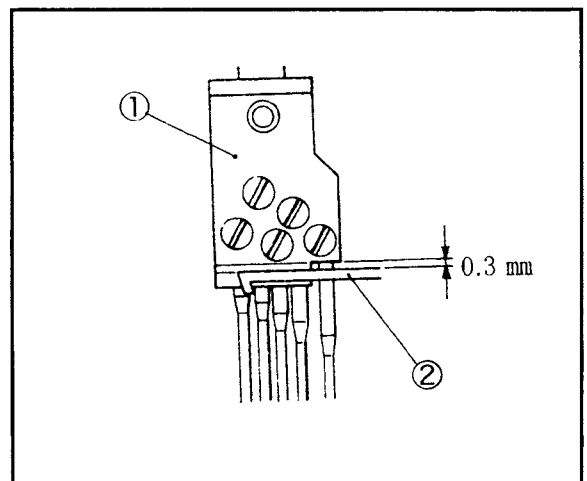

Fig. 10
2. As standard, make the clearance between the notch of the needle clamp ① and the top cover thread hook ② to 0.3mm when the needle bar is at the lowest point and the presser foot is raised by pressing the presser foot pedal fully. (Fig. 10)
當針柱在最低位置和壓腳完全抬舉時，針鏹和上網線勾需留間隙 0.3mm。(Fig. 10)